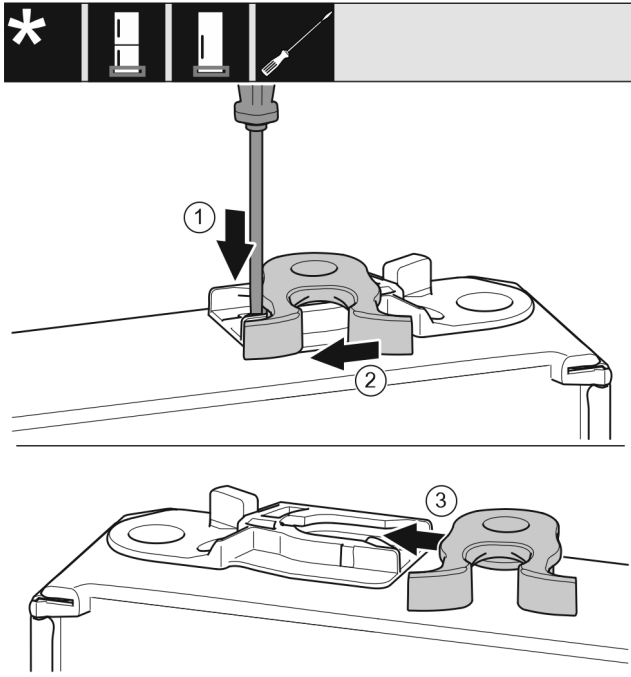

Fig. 40 *
- Use a slotted screwdriver to push the tab Fig. 40 (1) downwards.*
- Pull the closing hook Fig. 40 (2) out of the guide.*
- Insert the closing hook Fig. 40 (3) into the guide on the other side.*